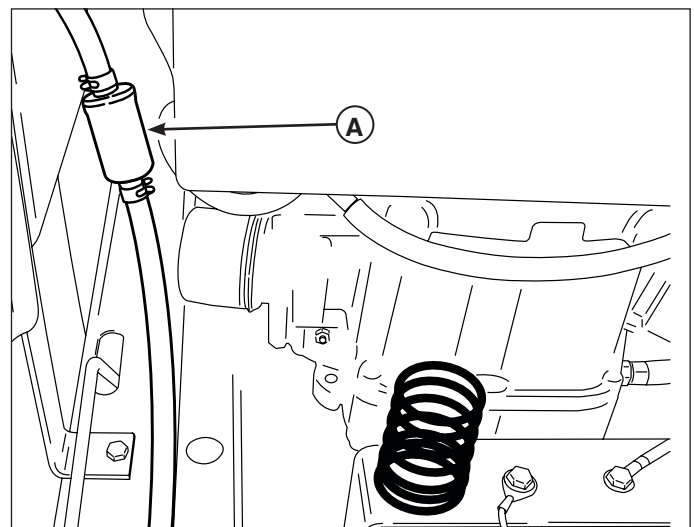

Figure 11. Fuel Filter Replacement
3. Using pliers, open and slide hose clamps from fuel filter (**A**, Figure 11).